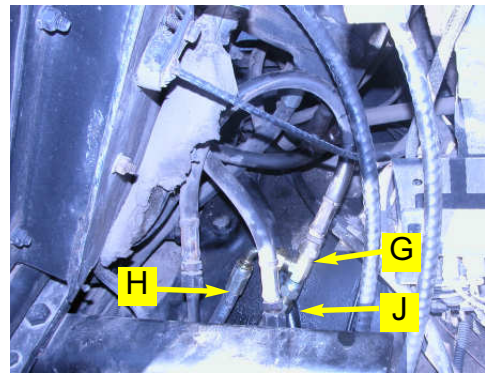

Figure 4c. Installed tank and excess-flow hoses.
- b. Connect the run tee (**G**) to the hose removed from the orbital. (Figure 4c.)
- c. Connect the provided tank hose (**H**) and excess-flow hose (**J**) to the run tee (**G**) and to the **T** port and the **EF** port of the Automated Steering Block, respectively. (Figure 4c.)